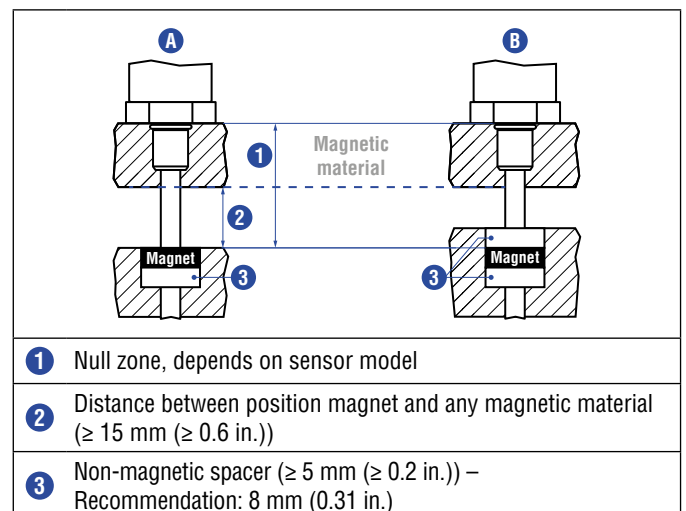

Fig. 48: Installation with magnetic material
- Minimum distance between position magnet and any magnetic material has to be 15 mm (0.6 in.) (Fig. 48).
- If no other option exists and magnetic material is used, observe the specified dimensions (Fig. 48).
When using magnetic material the dimensions of Fig. 48 must be observed.